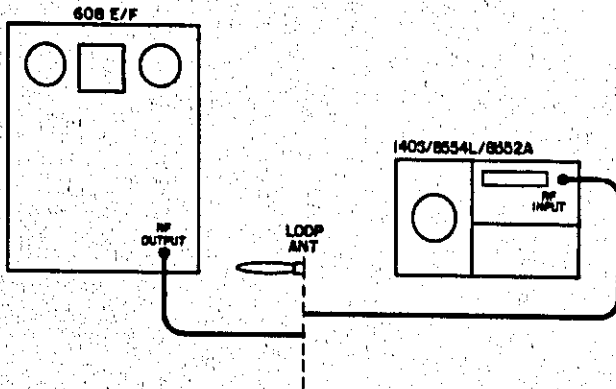

Figure 5-10. RF Leakage Test Setup
- Connect signal generator in test setup illustrated in Figure 5-10.